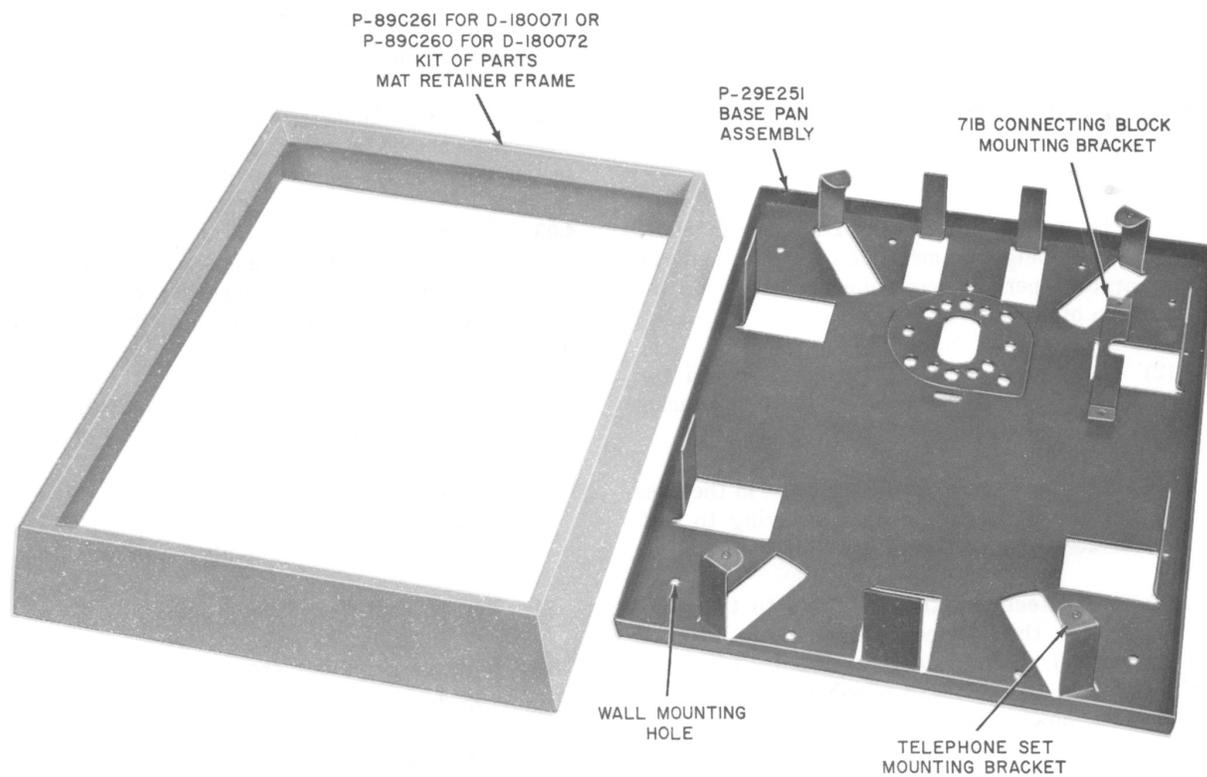

Fig. 2—D-180071 or D-180072 Kit of Parts for Surface Mounting
(1) The D-180071 (light gray frame) or D-180072 (light beige frame) Kit of Parts, ordered separately, permits mounting these sets on the surface of a wall (Fig. 2).
(2) The base pan assembly is arranged for mounting on a 63A or KS-19407L1 bracket or a standard electrical outlet box.
(3) After securing the base pan to the wall, fasten the 71B connecting block (ordered separately) to the bracket provided. Terminate inside wire or cable and telephone set mounting cord as shown in appropriate connection figure.
(4) Connect mounting cord plug to connector on set panel. Dress mounting cord to avoid interference with telephone set components.
(5) Align panel of set with mounting screws furnished with the set.
(6) Position mat on panel and secure using plastic frame (P-89C260 or P-89C261) from kit of parts.